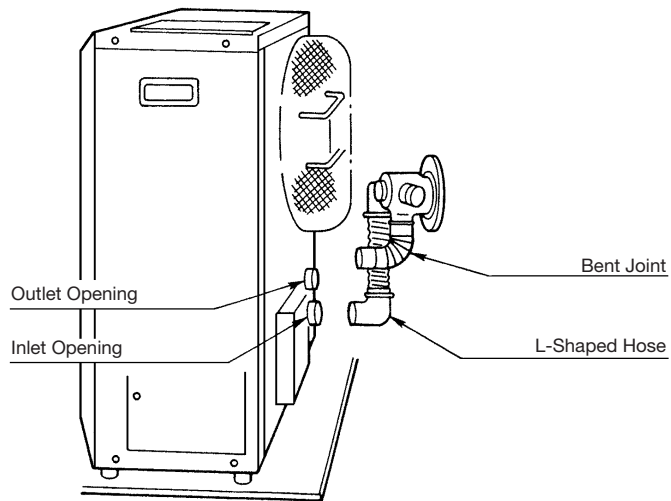

Fig. 12
8. Move the heater into position. Connect the bent joint to the exhaust outlet opening (upper opening) and attach the L-shaped hose to the intake inlet opening. Make sure all connections are tight (See Fig. 12).